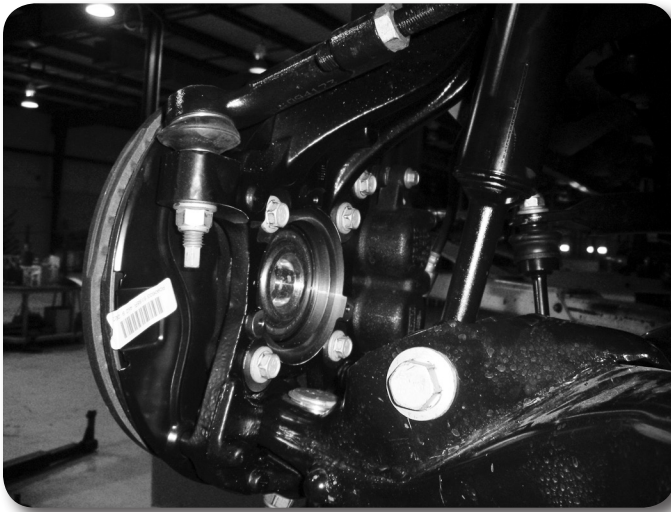

Figure 15
40. Install the brake rotor and caliper to the knuckle with factory bolts. Torque to 148 ft-lbs. **Figure 15**